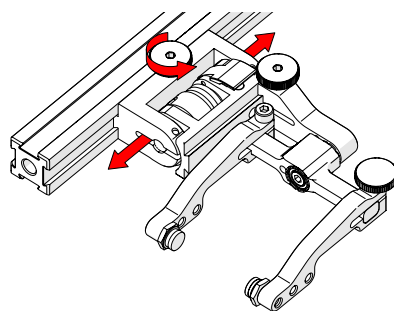

Fig. 43 - Adjust on frame bar
2. Use the probe holder adjustment knob to position the probe holder along the frame bar (Fig. 43).